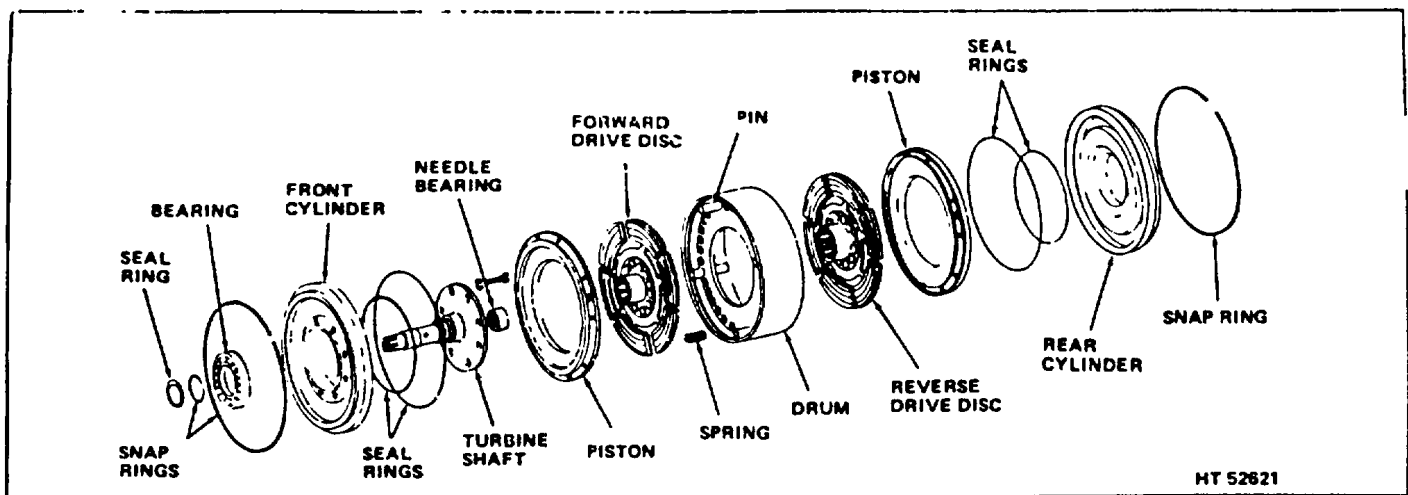

Figure 16. Drum and Disc Assembly
1. Place the drum and disc assembly in an arbor press. Then apply pressure on the turbine shaft until the cylinder is depressed enough to remove the large snap ring from the drum (Fig 16).
1. Install the reverse drive disc, piston, seal rings, and rear cylinder. Make sure that the rear cylinder and the piston do not bind in the drum or on dowel pins. Install large snap ring holding cylinder and assembled parts in place. (See Figure 16.)